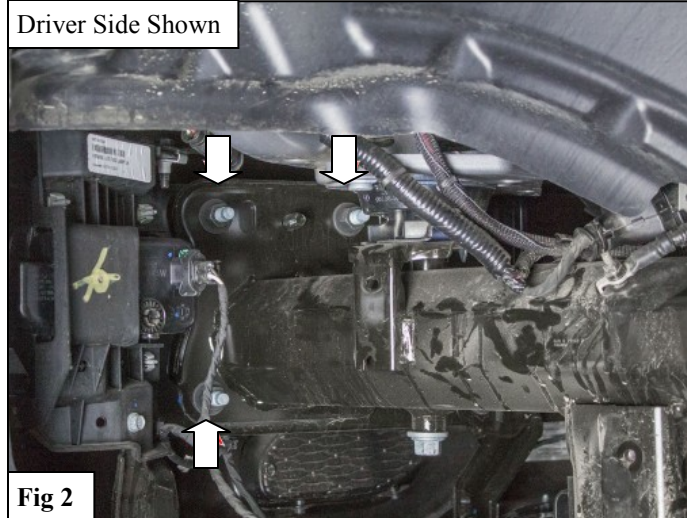

Fig 2
4. Remove the three frame mounted bolts from each side of the vehicle. Then, carefully remove the OEM bumper. See **Figure 2**.